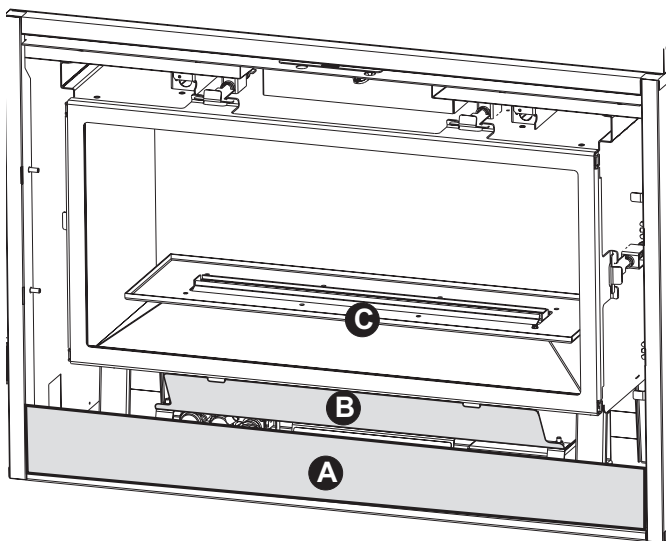
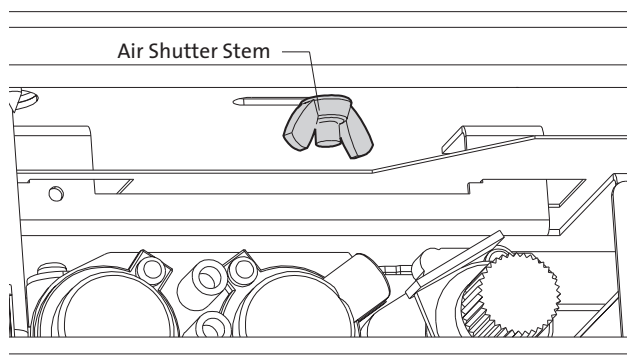

Figure 6.5.
Figure 6.6. Air Shutter Stem wing nut located above valve.
3. **Remove the Front Apron panel** (fig. 6.5-A). Use a 1/4" socket driver to remove the two side screws and only loosen the five bottom screws.
4. **Remove the Controls Heat Shield** (fig. 6.5-B). Reach under the firebox to loosen the **Air Shutter wing nut** located above the valve compartment (fig. 6.6).
5. **Lift the Burner Riser/Media Tray** (fig. 6.5-C) out of the firebox.